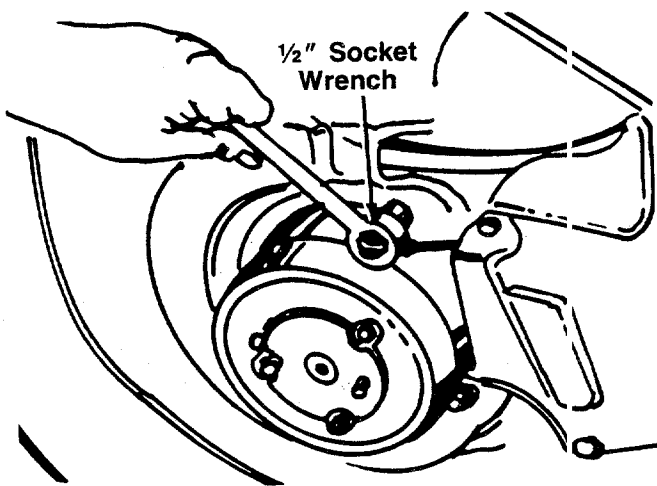

FIGURE 22.
11. Support the engine with one hand. Remove the three self-tapping screws which secure the deck and blade brake/clutch to the engine. A 1/2" socket wrench is required. See figure 22.